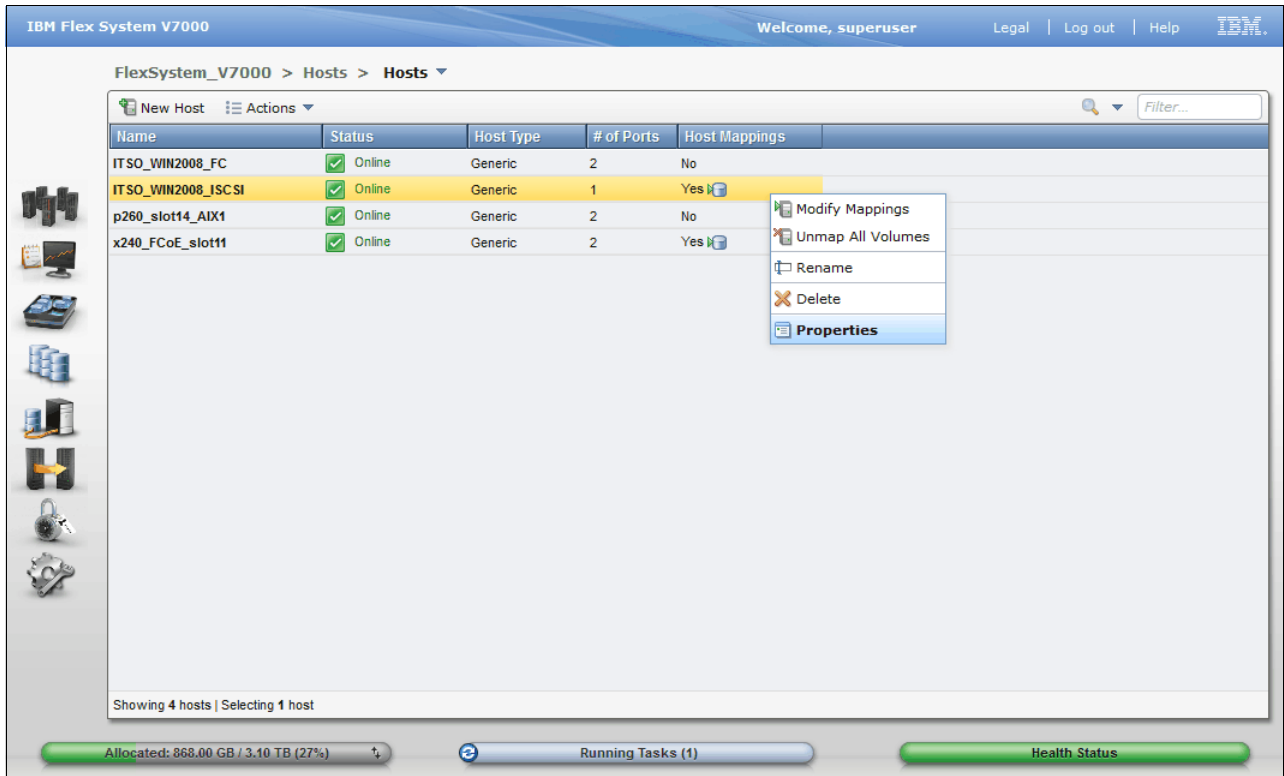
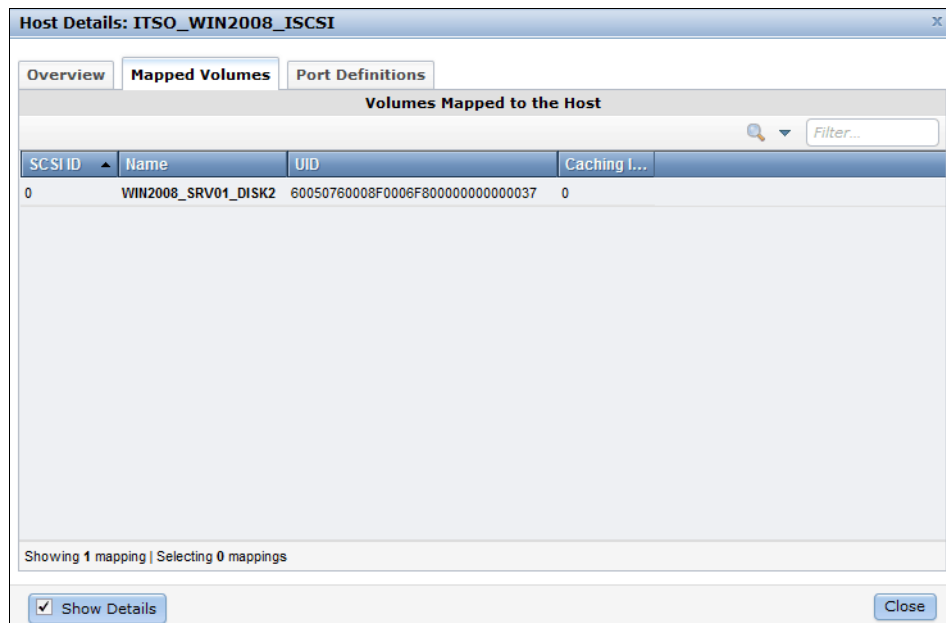

Figure 12-13 All Hosts view - iSCSI host selected
Figure 12-14 Mapped Volumes to an iSCSI host
1. Right-click your Windows 2008 iSCSI host in the All Hosts view (Figure 12-13), click **Properties**, and navigate to the **Mapped Volumes** tab (Figure 12-14).